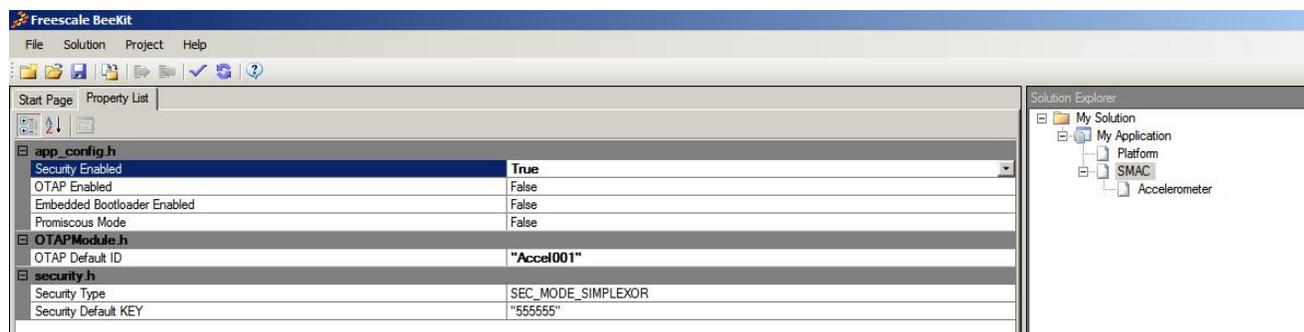

Figure 7 SMAC Software Component Configuration
2. Click on the SMAC software component and use the available menus to configure it (Figure 7) with the following options: